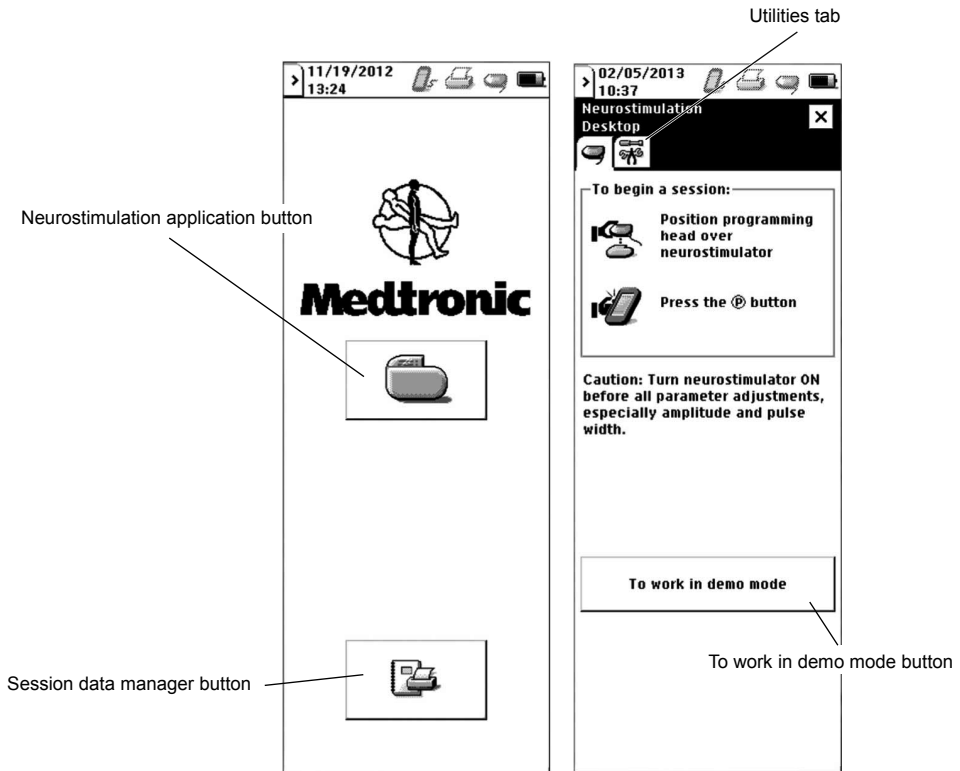

Figure 11. Application selection and Neurostimulation Desktop screens.
Before beginning a programming session, insert the appropriate application card, turn the programmer on, check the programmer battery status, and navigate to the **Neurostimulation Desktop** screen (Figure 11). The following tasks can be initiated from the **Neurostimulation Desktop** screen:
1. Turn the programmer on. The **Application selection** screen appears (Figure 11 on page 19).
2. Select the **Neurostimulation application** button (). The **Neurostimulation Desktop** screen appears (Figure 11 on page 19).
2. From the **Neurostimulation Desktop** screen (Figure 11 on page 19), select the **Utilities** tab.
1. From the **Neurostimulation Desktop** screen (Figure 11 on page 19), select the **To work in demo mode** button. The **Demo mode** screen appears.
1. From the **Neurostimulation Desktop** screen (Figure 11 on page 19), position the programming head over the neurostimulator.
Pressing the **Therapy-stop** key () on the programmer turns the neurostimulator off. The **Therapy-stop** key is available immediately after the **Neurostimulation Desktop** screen appears (Figure 11 on page 19) and throughout a patient session. The **Therapy-stop** key is not available while the Model 8870 application is loading or when files are being copied to the application card.